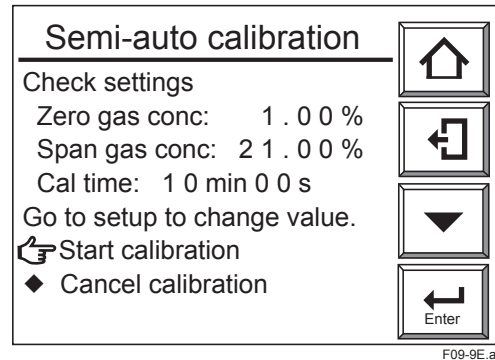

Figure 9.9 Semi-auto Calibration Display
- (2) Select the "Semi-auto calibration" to display the Semi-auto calibration display shown in Figure 9.9.